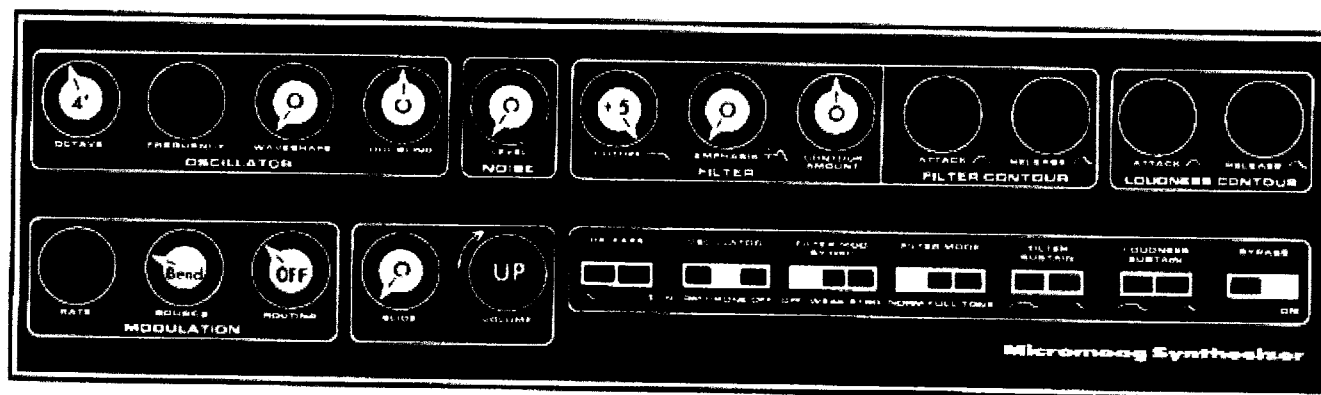

FIGURE 5-1 SOUND CHAIN CHECK
<p>A. No Sound. Power Light does not come on.</p> <p>B. No Sound. Power Light on. <math>\pm 15V</math> supplies working.</p>	<ol style="list-style-type: none"> <li>1. Internal fuse F1 or F2 blown.</li> <li>2. Bad power supply board 996-041615-001.</li> <li>3. - 15V shorted out somewhere.</li> </ol> <p>Set controls according to Figure 5-1. Signal trace the following points to locate faulty circuit.</p> <ol style="list-style-type: none"> <li>1. Q402 Gate 1 to see if the oscillator (VCO) is running. If running:               <ol style="list-style-type: none"> <li>a. Roll NOISE control knob up and down. If noise gets through to the output, then the fault lies in the waveshaper circuit. If noise does not get through:</li> <li>b. Check the filter (VCF) output at the emitter of Q513. No output here means that the filter is bad. If our sawtooth is here then:</li> <li>c. Check the output of the VCA at IC602B, pin 7. No signal here indicates trouble in the VCA. Otherwise the problem is in the VOLUME pot R612 or the harness wiring.</li> </ol> </li> </ol>
G. Oscillator Summing Network Fault.	1. IC301, CR303, Q307, Q308.  2. One of the summing resistors receiving wrong input . With controls set according to Figure 5-1, VO at P2, pin 3 should be within a few millivolts of -40 mV DC (IC301A, pin 1 should be roughly -2.0 volts DC). If VO is far off spec., then check input ends of R302, 330, 331, 339, 343, 371 and 372. You may short each one of these resistors to ground to help locate the troublesome input.
I. VCF not passing signal. Reason undetermined.	Set controls according to Figure 5-1.  1. Insure that input signal of roughly 40 mV p-p appears at base of Q501.